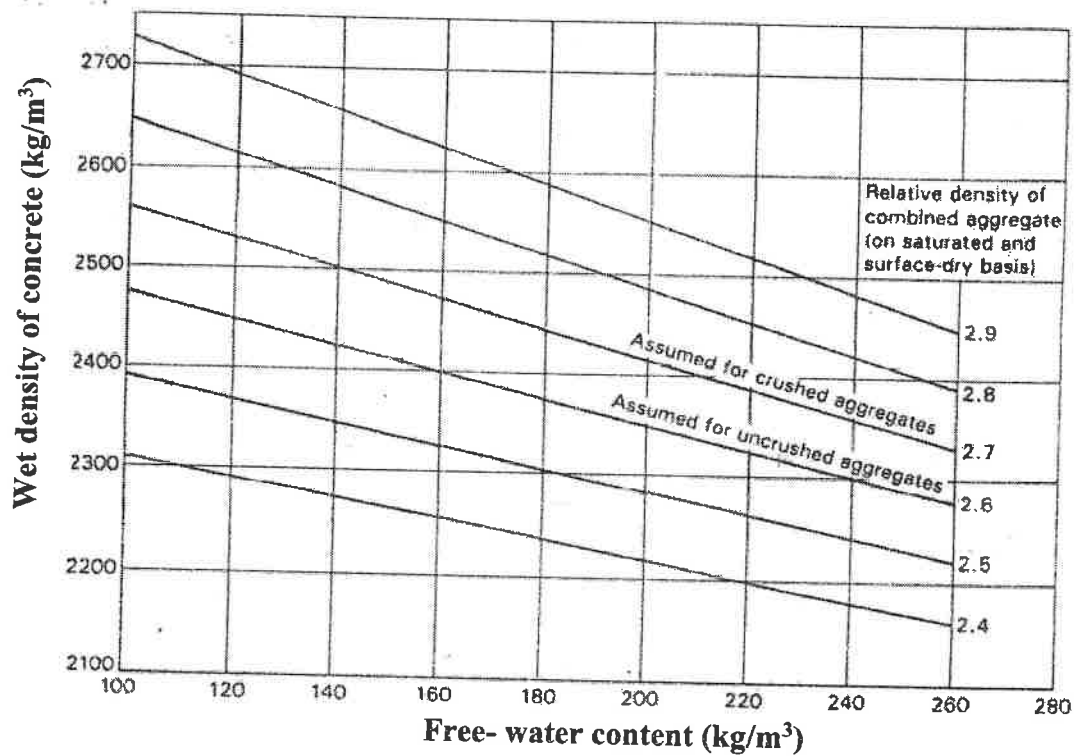

Fig. Q2.2 Wet density of concrete against the free water content for different relative densities of the aggregate mix.
*Variation of fresh concrete density against water content for different values of specific density of fine and coarse aggregate mix is shown in Fig. Q2.2.*